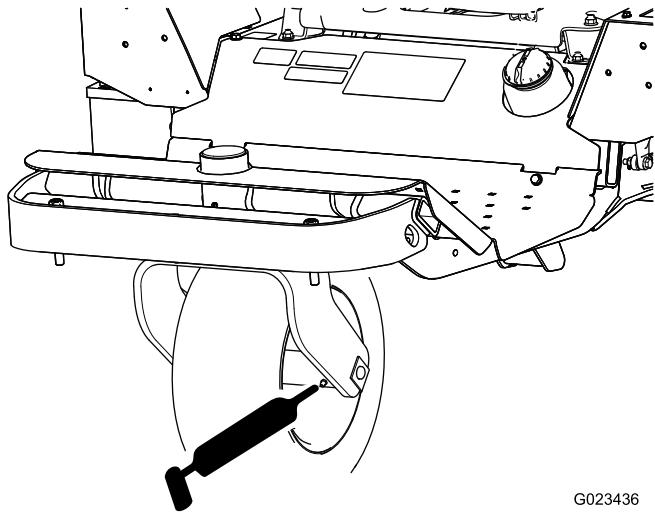

Figure 34
- Front wheel bearing (1)—Figure 34